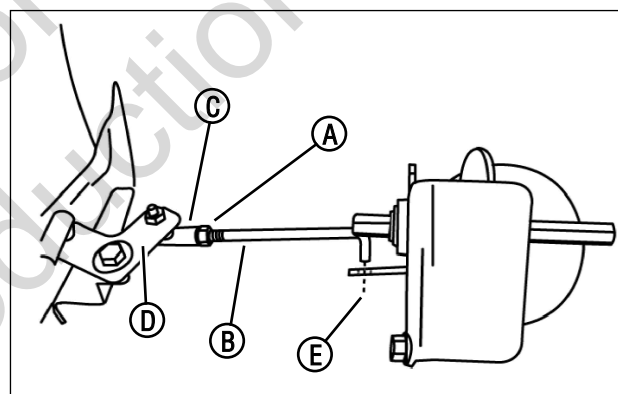

Figure 28: Adjusting the transfer rod
4. Loosen the jam nut (A, Figure 28) securing the transfer rod (B) to the ball joint (C) on the pivot bracket (D).
5. Turn the rod in or out of the ball joint until the end of the rod aligns with the hole (E) in the driven disc assembly from which the rod was removed.